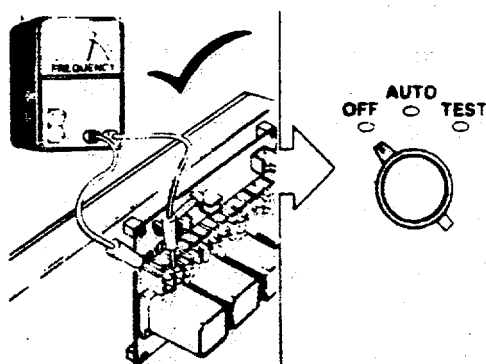

FIGURE 3-17. Frequency Meter Hook-up.
- (4) Connect a frequency meter to terminals V0 and V7. (FIGURE 3-17)